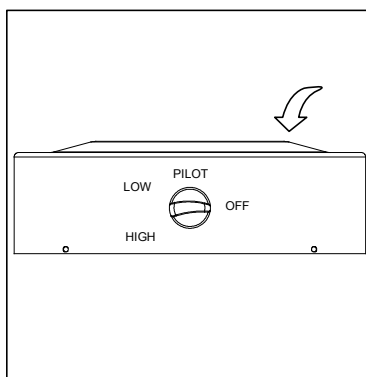

Figure 1
1. Depress and turn control knob clockwise to OFF position. (Figure 1).